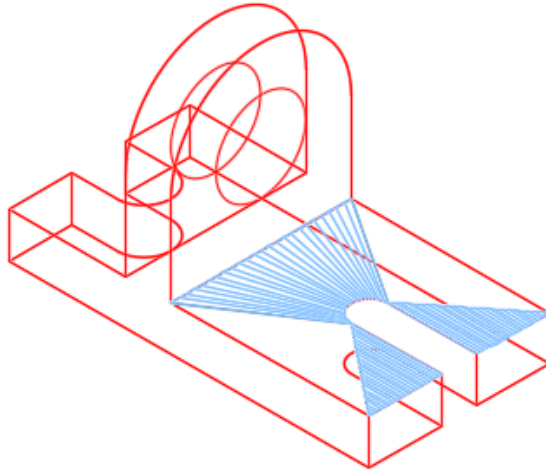

Figure Step 13
Step 13 On layer: Surface 1, use the RULESURF command to insert the surfaces as shown in the figure. Change the surfaces the layer: Surface off. (Figure Step 13)